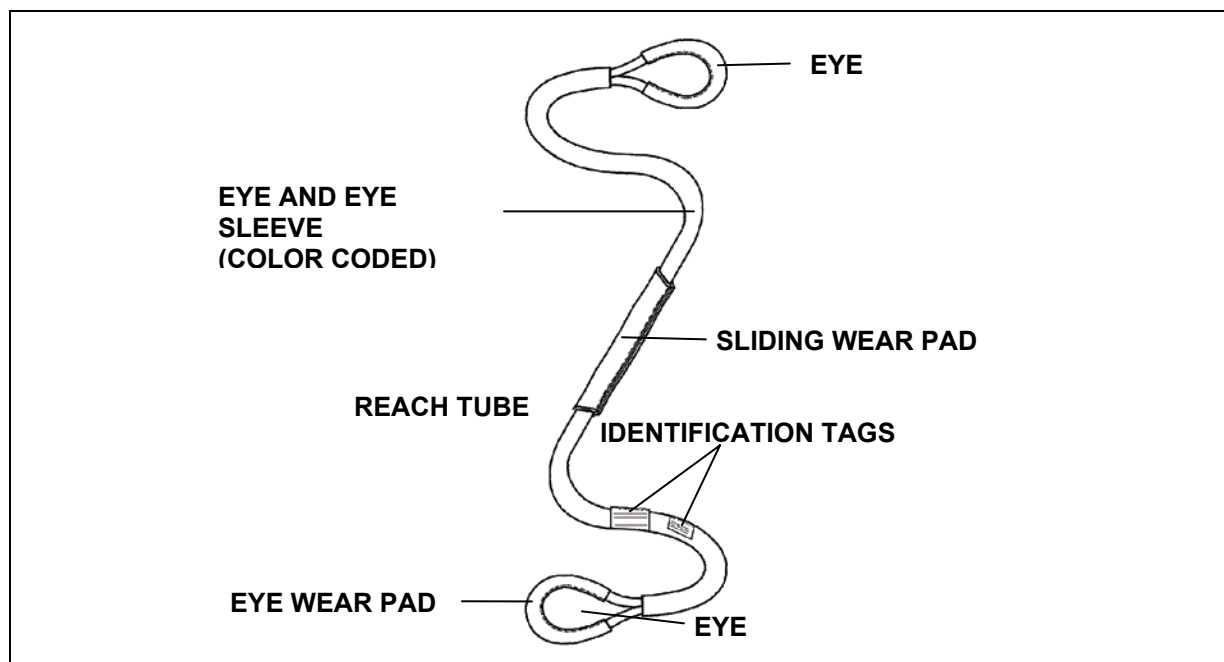

Figure 8-30. Polyester Roundslings
- **Polyester Roundslings.** Polyester roundslings are used as the primary vertical pendant (Figure 8-30). Roundslings can be attached to the load using the three hitches described in Chapter 6. The lifting capacity of polyester roundslings vary with the size of the sling and the type of hitch used to attach the load. Each sling has two identification tags permanently sewn to the eye and eye sleeve identifying the size and capacity, as well as other important information necessary for the safe use of roundslings. These slings are also color coded to designate the capacity of the sling. Refer to Table 8-1 for sling lengths and lift capacities.